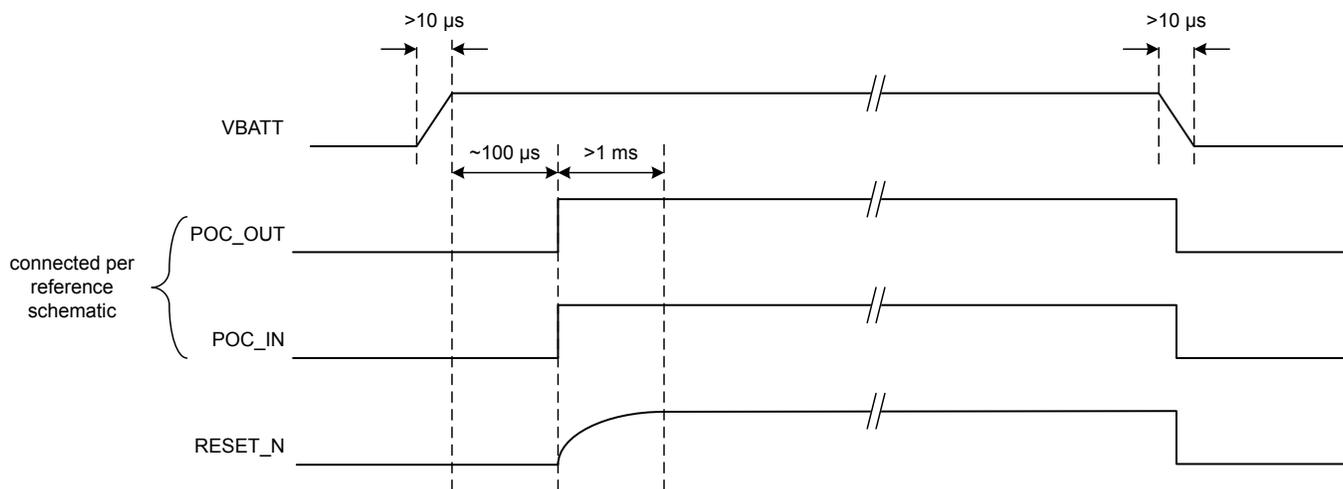

Figure 7.1. Power Up Sequence
- RESET_N: RESET_N is an open-drain signal which will be pulled low during a chip reset. It is released after POC_IN is high. RESET_N should be connected to an RC circuit to fulfill the timing requirements shown in Figure 7.1 Power Up Sequence on page 97.
Figure 7.1 Power Up Sequence on page 97 shows the signal timing when POC_OUT, POC_IN, and RESET_N are connected per the recommended schematic. The POC_IN-to-RESET_N delay will occur when POC_IN transitions from low to high. VBATT in the figure refers to the connection of UULP_VBATT_1 and UULP_VBATT_2 (connected together in the schematic).